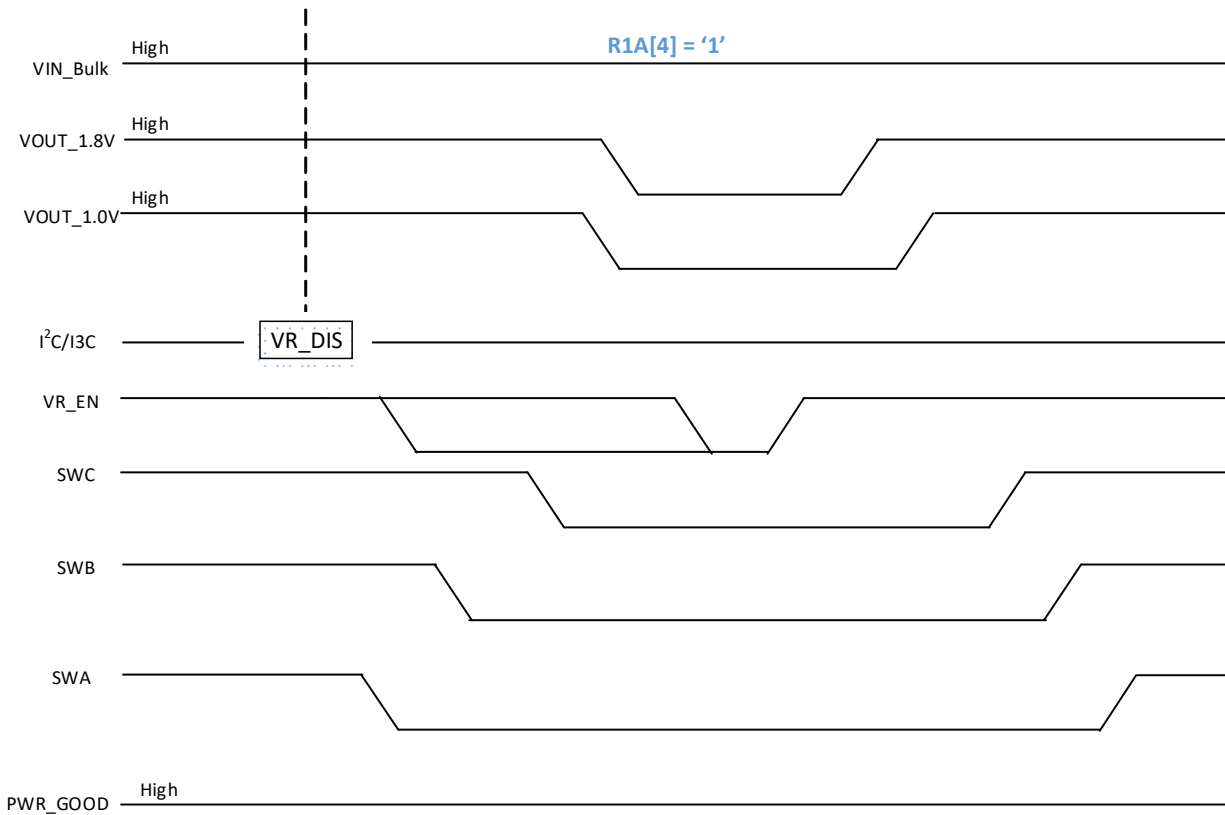

Figure 28 — Power Down with VR_DIS; R1A[4]=1; Programmable Mode; PWR_GOOD Signal
- b. If VR Disable command on a I²C/I³C Basic Bus (i.e., Table 146, Register 0x32 [7] = '0'), PMIC keeps the PWR_GOOD signal floating because this is an intentional command from the host and not a fault condition. The PMIC exits from P1 state with only VR_EN pin transition to High. The host can re-enable the PMIC's output regulators by VR_EN pin transition to High and PMIC executes power on sequence config 0 to power on sequence config 2 registers. The PMIC continues to float PWR_GOOD signal until tPMIC_PWR_GOOD_OUT timing parameter is satisfied and at that point PMIC assumes normal control of PWR_GOOD signal. See Figure 28. The PMIC does not require power cycle.
2. Configuring one or more bits in Table 143, Register 0x2F [6,4:3] to '0' in any specific sequence that is desired by the host. The PMIC does not execute power off sequence config0 (Table 176, Register 0x58) to power off sequence config2 (Table 178, Register 0x5A,) on its own. The PMIC keeps the PWR_GOOD signal floating because this is intentional command from the host and not a fault condition. Note that host can re-enable any of disabled output regulators by configuring one or more bits in Table 143, Register 0x2F [6,4:3] to '1' in any specific sequence that is desired by the host. The PMIC keeps the PWR_GOOD signal floating. The PWR_GOOD signal behavior is same as in Figure 28.